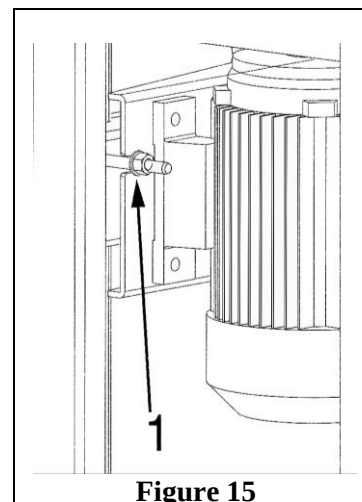

Figure 15
3. if necessary, turn the nut (Figure 15, pos.1) to tension the belt;